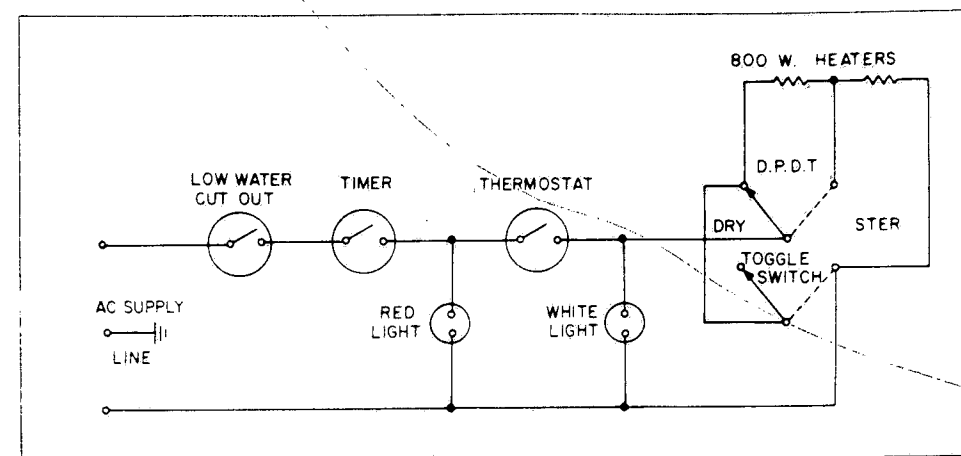

Figure 4-1. Schematic.
1. Inspect visually for any missing or loose attaching parts. Tighten any loose screws or nuts; replace any missing parts. Inspect electrical connections for tightness. Tighten if necessary. Check electrical wiring for defective insulation. See Figures 4-1 and 4-2, 4-2A, 4-2B or 4-2C for wiring.